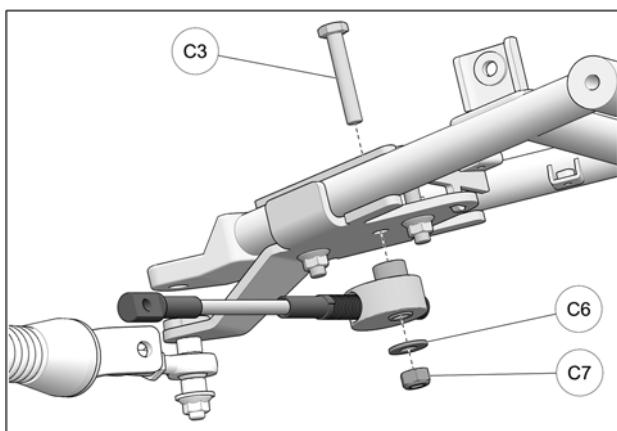

Fig. 21
11. Pass bolt (**C3**) down through opening in bracket cover and insert it in the anchor bracket's central hole. Slip steering limiter cable assembly over bolt (**C3**) and use washer (**C6**) and nut (**C7**) to secure assembly to anchor bracket. Tighten nut to 50 N·m [37 lb·ft]. Refer to Fig. 21